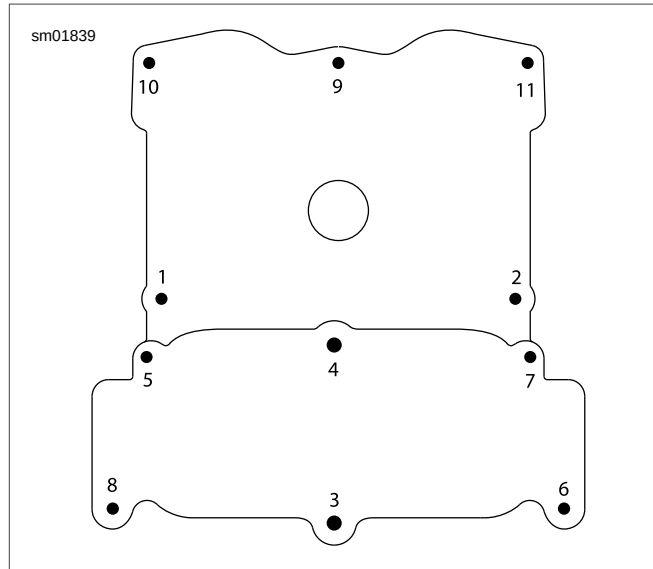

Figure 1-72. Cam Cover Torque Sequence
32. See Figure 1-72. Insert fasteners in cam cover. Tighten to 11 Nm (97 **in-lbs**) in sequence.